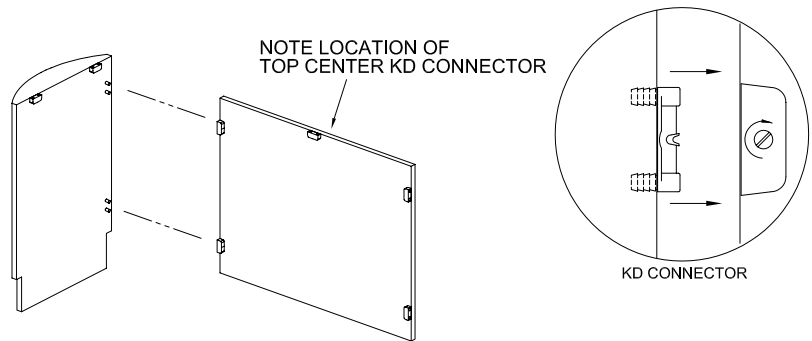

FIGURE 6A
Connect the end column with the back panel using the (2) KD connectors. Engage the KD connectors by turning the screw clockwise about 1/2 turn. See Figure 6A.